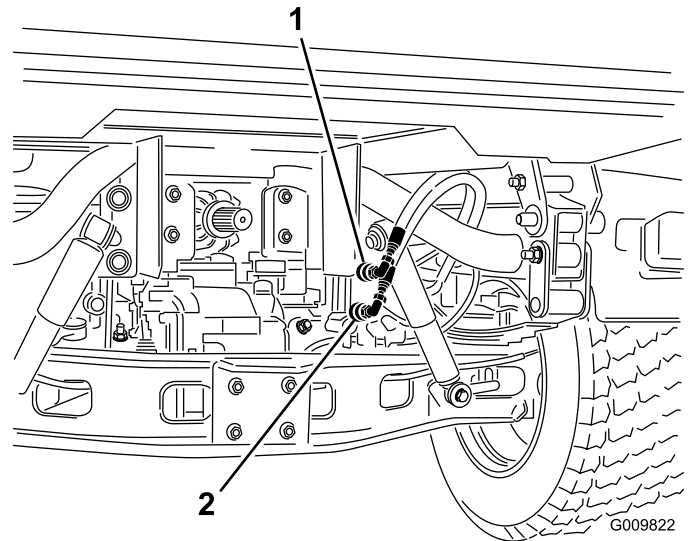

Figure 68
2. On both machine, disconnect the 2 quick-coupler hoses from the hoses secured to the coupler bracket (Figure 68).